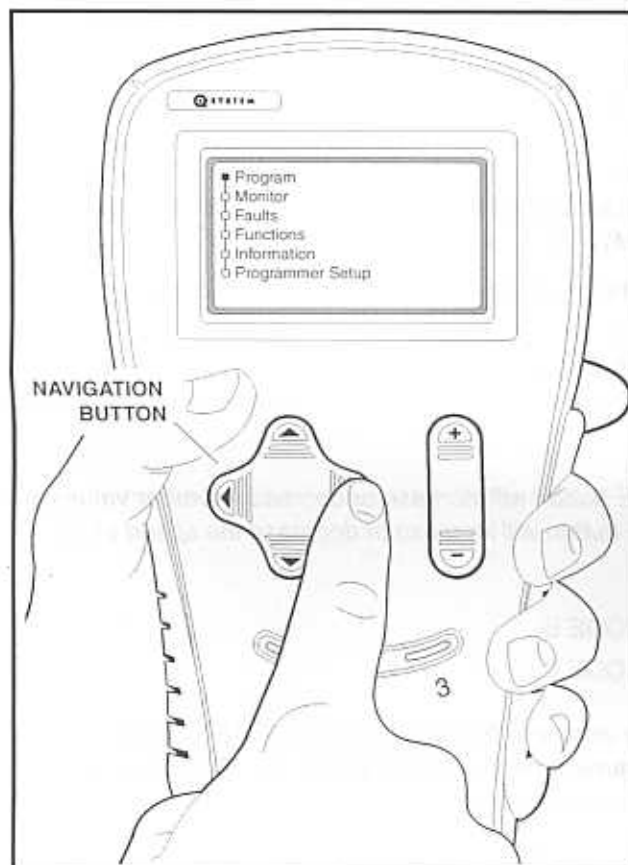

Figure 12 Access Program Menu
- 5.1. Access the *program* menu by pressing the right arrow on the navigation button when the square beside *program* is blinking (Figure 12).